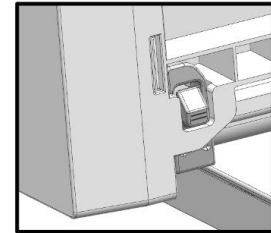

Figure 3
- Push the crisper down until you feel the front section clip onto the rails (see Figure 3).